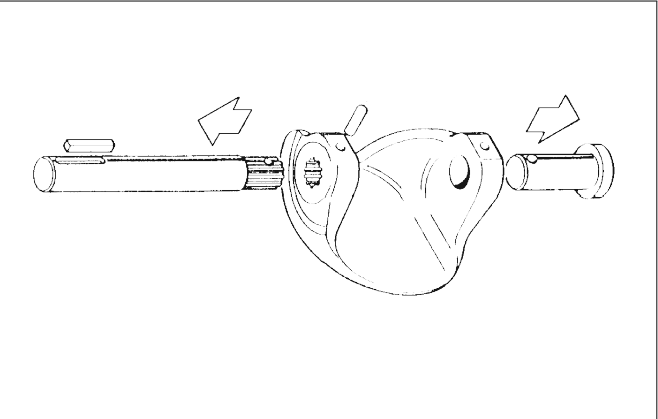

Fig. 24 Removing the shafts
- ❑ Detach the retainer plates (42).
- ❑ Detach the gland packings (20).
- ❑ Remove the shafts (11 and 12), Fig. 24.
- ❑ Adjust the segment open and closed positions (limits to piston movement) by means of the actuator stop screws, see Fig. 24. The correct opening angle is 90°, for the R2_S valve 70°. The accurate position can be seen in the flow port. Check that the yellow arrow indicates the position of the segment.